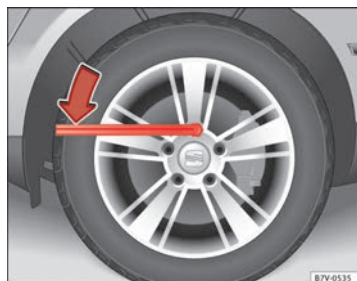

Fig. 183 Changing the wheel: Slacken the wheel bolts.
- Fit the wheel brace as far as it will go over the wheel bolt ⇒ fig. 183.